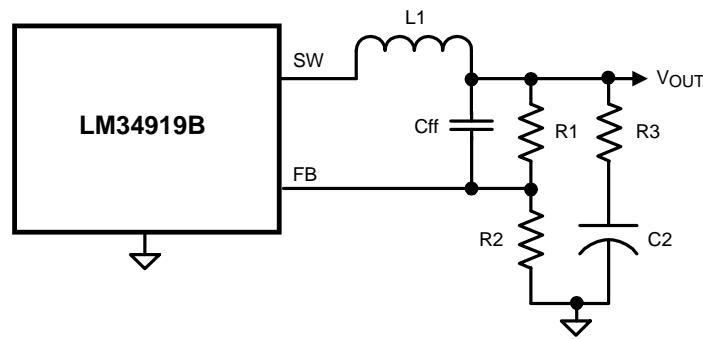

Figure 32. Reduced Ripple Configuration
**a) Reduced ripple configuration:** In Figure 32,  $C_{ff}$  is added across  $R1$  to AC-couple the ripple at  $V_{OUT}$  directly to the FB pin. This allows the ripple at  $V_{OUT}$  to be reduced to a minimum of 25 mVpp by reducing  $R3$ , since the ripple at  $V_{OUT}$  is not attenuated by the feedback resistors. The minimum value for  $C_{ff}$  is determined from: